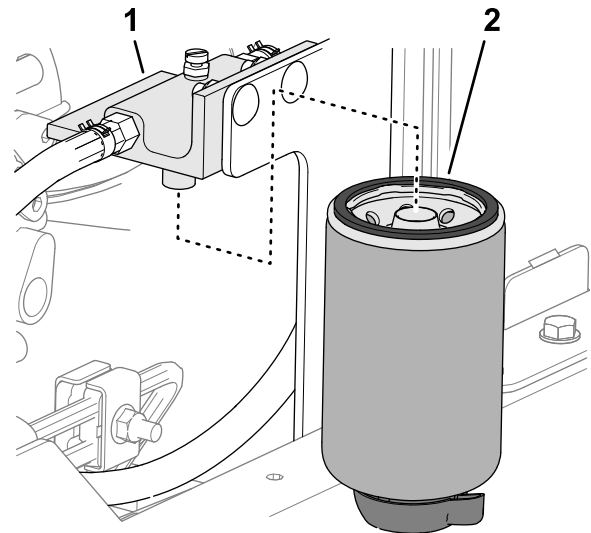

Figure 82
2. Clean the filter head and filter canister (Figure 82).